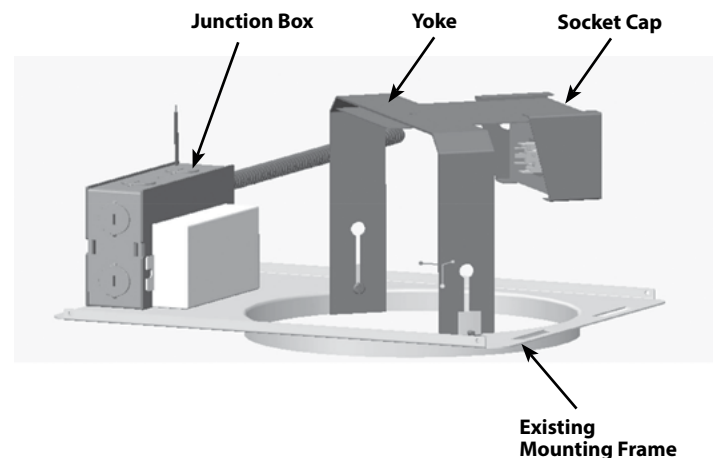

Fig.1. Existing Fixture
1. Disconnect power to the **Existing Fixture (Fig. 1)**.